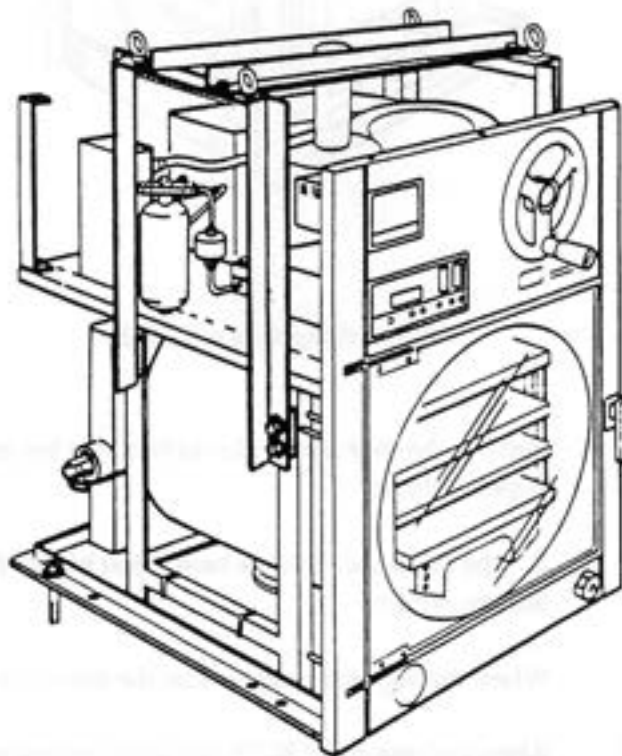

Fig.10 Lifting frame assembled onto RC3S unit
- c) Attach the cross-pieces using four M6 bolts and nuts and then attach to them the four M12 eye-bolts (High tensile bolts MUST be used). It is essential that all bolts are securely fixed — see Fig. 10